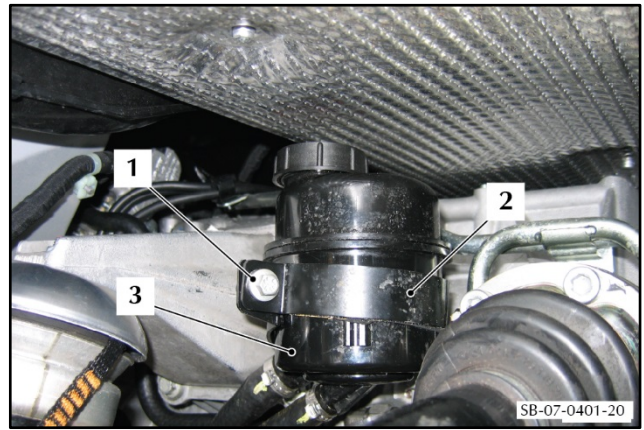

Figure 53
- 105. Put the reservoir (3) in position (refer to Figure 53).
- 106. Put the clamp (2) in position to hold the reservoir (3).
- 107. Install the screw (1) to attach the clamp (2) that attaches the fluid reservoir (3).